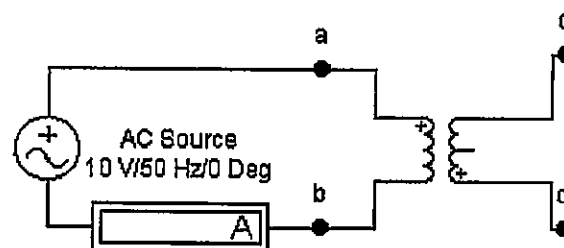

Fig 13.1
- 1- Connect the high side (primary) of the transformer to the power source as shown in Figure 13.1.